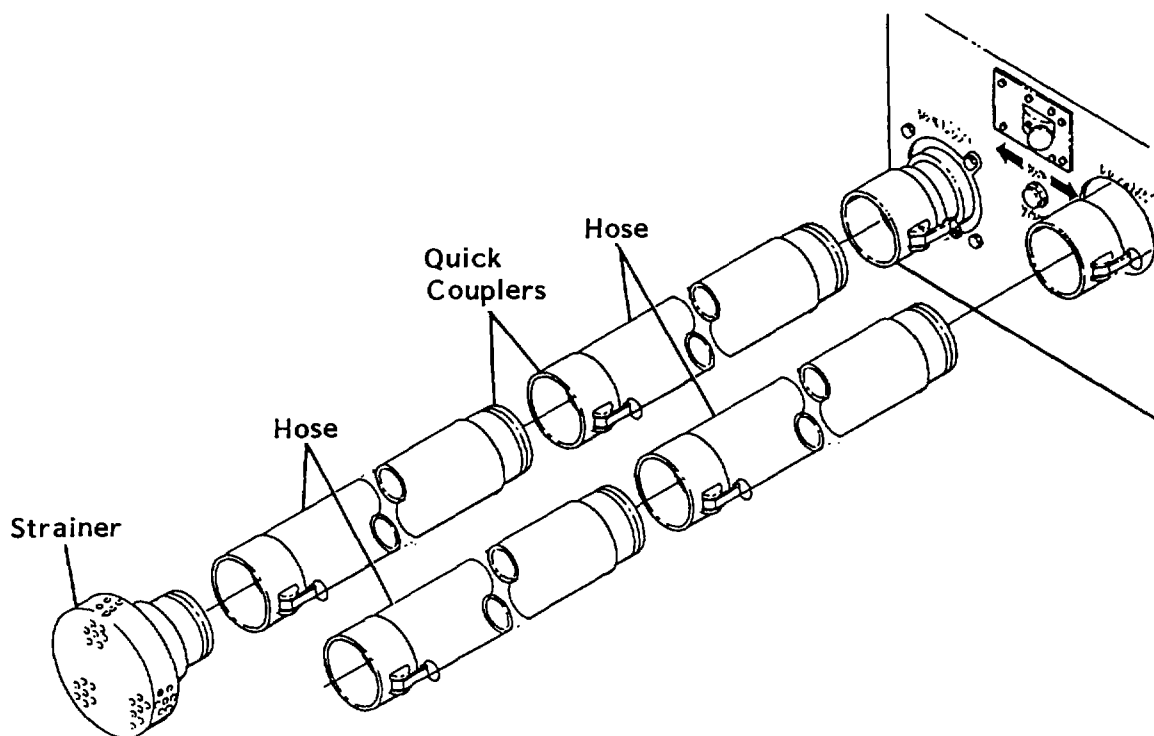

Figure 2-35. Suction and Discharge Hoses, Fittings and Strainer.
There are four (4) identical (2" x 20') hoses for use as suction and discharge lines. Each hose has a male coupling on one end and a female coupling on the other. Each hose may be used separately or, to increase the length of one or both lines, may be assembled by snapping together the mating quick-couplers. See Figure 2-35.